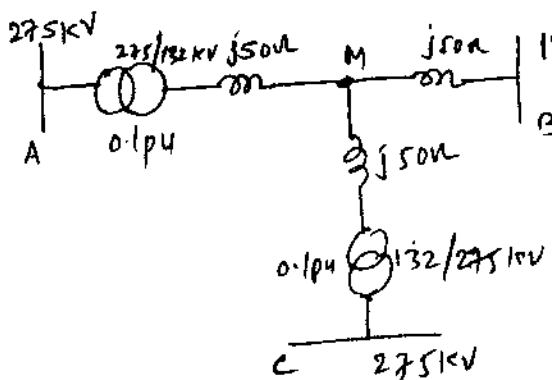

Fig.Q.4(c)
- c. Three supply points A, B and C are connected to a common bus bar M. Supply point A is maintained at a nominal 275 kV and is connected to M through a 275/132 kV transformer (0.1 pu reactance) and a 132 kV line of  $50\Omega$  reactance. Supply point C is nominally at 275 kV and is connected to M by a 275/132 kV transformer (0.1 pu reactance) and a 132 kV line of  $50\Omega$  reactance. If at a particular system load, the line voltage at M falls below its nominal value by 5kV. Calculate the magnitude of the reactive volt-ampere injection required at M to re-establish the original voltage. The per unit values are expressed on 500MVA base and resistance may be neglected throughout. Refer Fig.Q.4(c). (08 Marks)